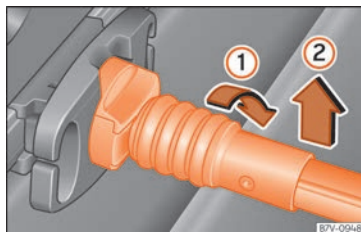

**Fig. 148** Release the baggage net
- Rotate the attachment rod 90° to the right » » » Fig. 148 ① until you can see the red mark on the rod. Pull the attachment rod upwards ②.